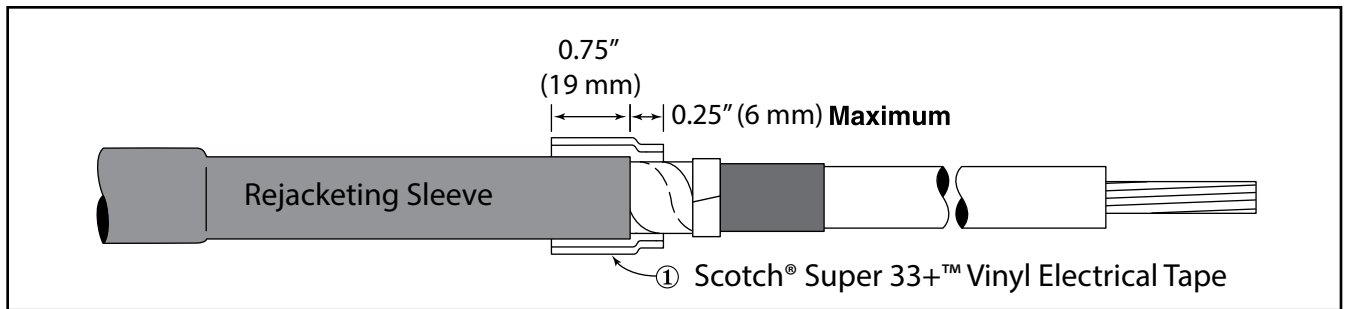

Figure 11
5.3 Secure rejacketing sleeve with two half-lapped layers of Scotch® Super 33+™ Vinyl Electrical Tape (*Figure 11*). Start taping 0.75" (19 mm) over rejacketing sleeve, extend 0.25" (6 mm) over cable metallic shield and return to starting point.